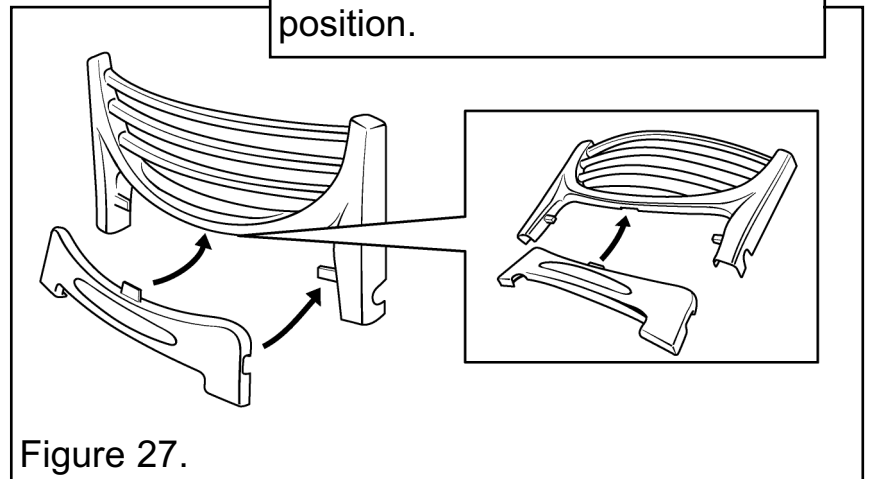

Figure 27.
3. Fit the front cover casting below the front casting locating it as shown in figure 27.